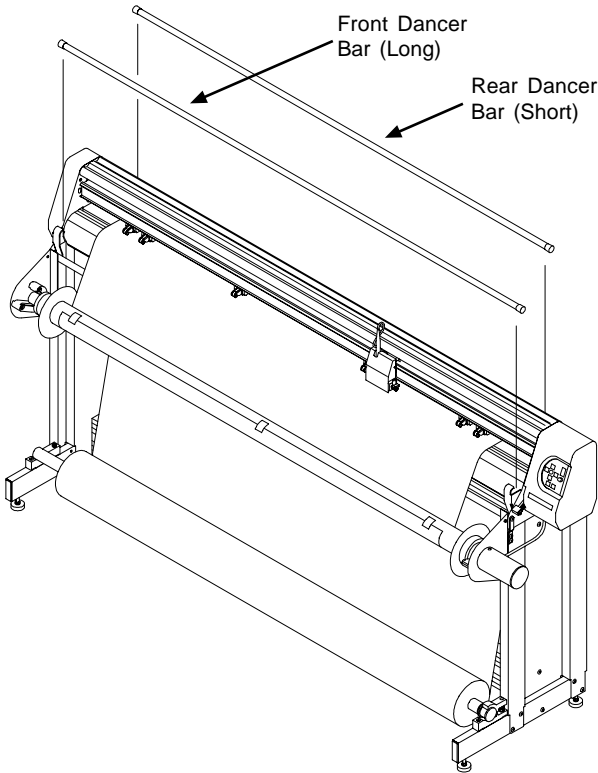

Figure 22. Inserting the dancer bars.
5. Insert the rear dancer bar. See *Figure 22*.
2. Insert the short rear dancer bar (if it is not already inserted) into the rear channels. See *Figure 22*.
3. Insert the long front dancer bar into the front channels. See *Figure 22*.